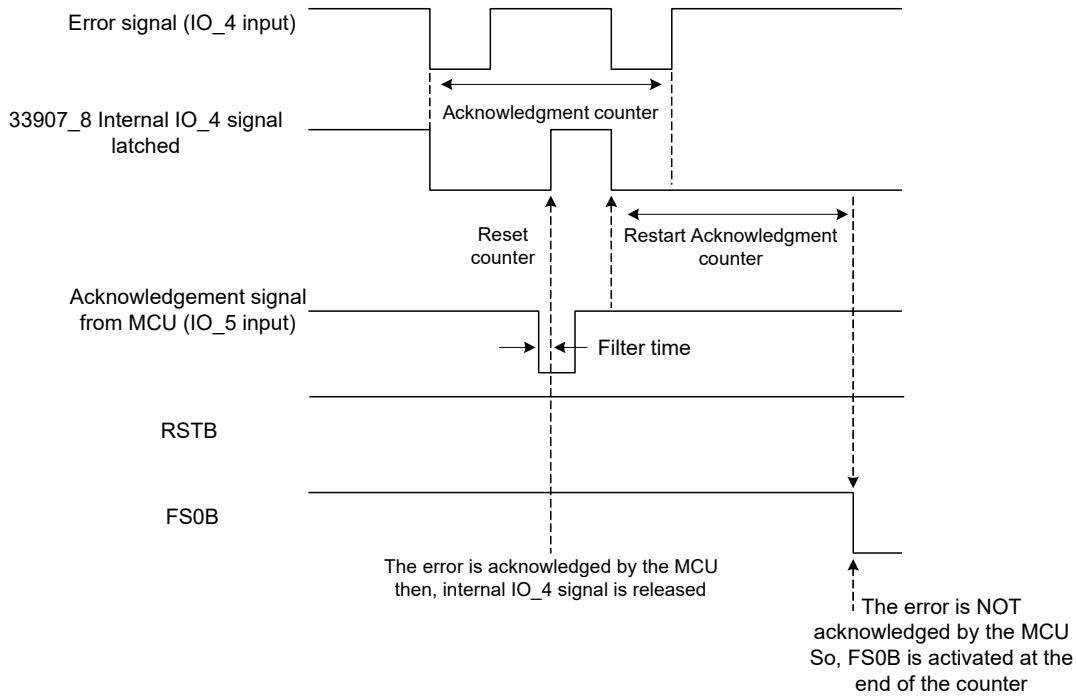

Figure 11. External error signal handling
Analog input (load dump proof) sent to the MCU through the MUX\_OUT pin. Wake-up input on the rising or falling edge or based on the previous state. Digital input (logic level) sent to the MCU through the SPI. **Safety purpose:** Digital input (logic level) to perform an IC error monitoring (both IO\_0 AND IO\_1 are used if configured as safety inputs, see Figure 11).
- Digital input (logic level) sent to the MCU through the SPI. Wake-up input (load dump proof) on rising or falling edge or based on previous state. Output gate driver (from  $V_{PRE}$ ) for low-side logic level MOSFET. **Safety purpose:** Digital input (logic level) to perform an IC error monitoring (both IO\_4 AND IO\_5 are used if configured as safety inputs, see Figure 11).